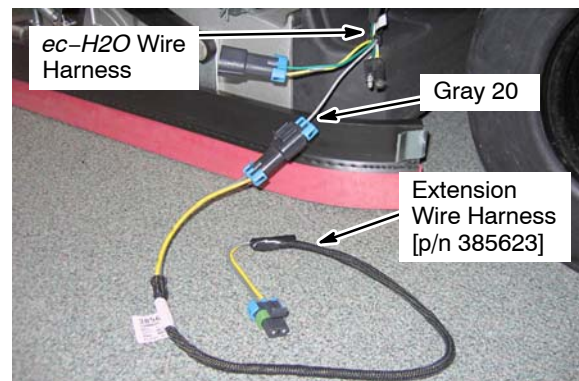

Fig. 16
2. From the right side of the machine, connect the extension wire harness [p/n 385623] to the routed *ec-H2O* wire harness as shown (Figure 16).